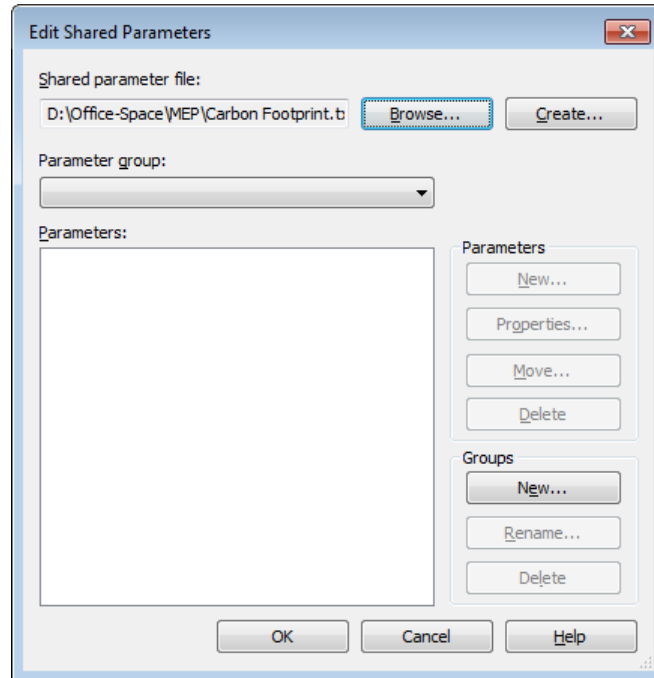

Figure 2-31 The Edit Shared Parameters dialog box
- e. Create the project parameter, refer to Figure 2-31.
1. Choose the **Shared Parameters** tool from the **Settings** panel of the **Manage** tab; the **Edit Shared Parameters** dialog box is displayed, refer to Figure 2-31.